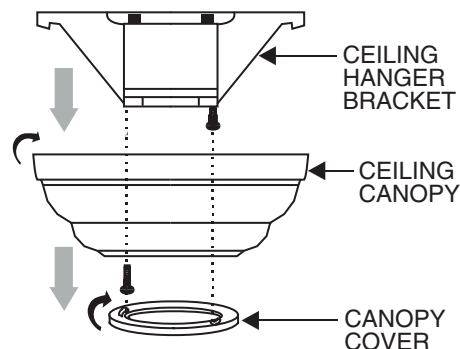

FIGURE 5
1. Remove the decorative canopy bottom cover from the canopy by turning the cover counter clockwise. (Fig. 5)
2. Remove the hanger bracket from the canopy by removing the 1 of 2 screws from the bottom of the hanger bracket and loosening the other one a half turn from the screw head. Next, turn the canopy counter clockwise to removing the hanger bracket from the canopy. (Figure 5)